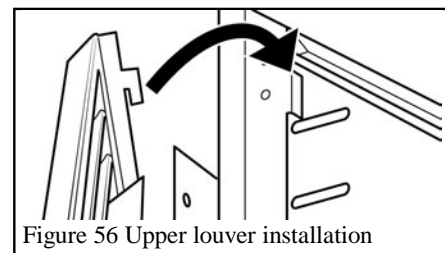

Figure 56 Upper louver installation
- Attach the upper louver by hooking over the tabs near the top of the firebox sides. See figure 56.